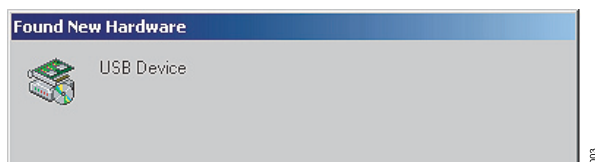

Figure 3.
3. When the USB cable is connected, this window appears and then disappears (Figure 3).